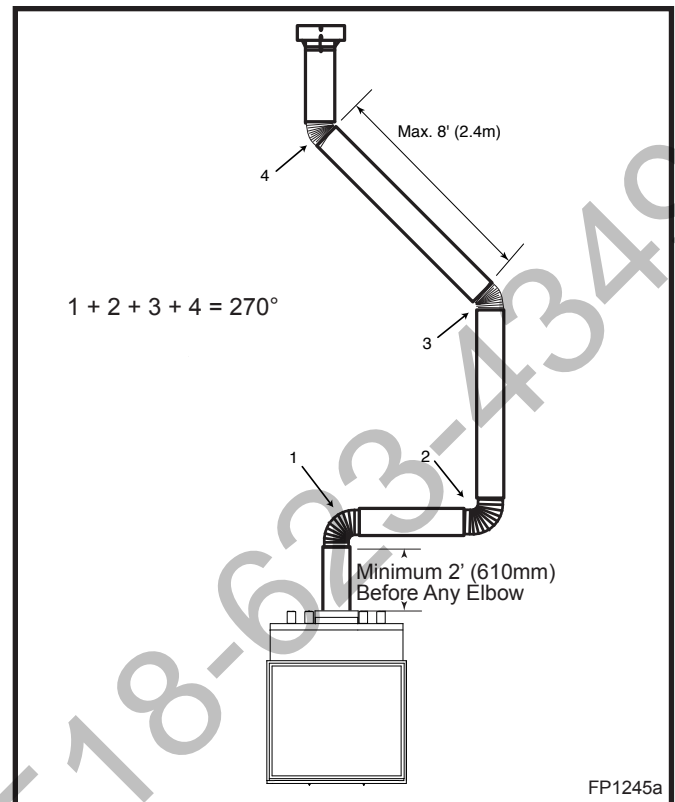

Fig. 30 Typical offset application.
- Two sets of 30° or 45° elbows offsets within these vertical installations. From 0 to a maximum of 8' (2.4 m) of vent pipe can be used between elbows. (Fig. 30)